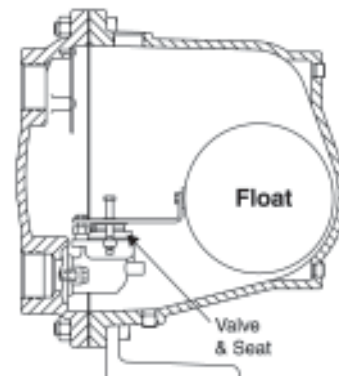

Figure 9
- 8) After inspection and repair, clean the gasket surfaces and place a new gasket between the body and the cap, you may want to use a gasket sealer/cement to hold the gasket on the cap when installing the body. Replace the body carefully to avoid bending the lever, float, or air relief tube (if used). Install and tighten the 12 bolts. (See Figure 9 for bolt tightening sequence.) If the anchoring bracket was removed, reinstall it.